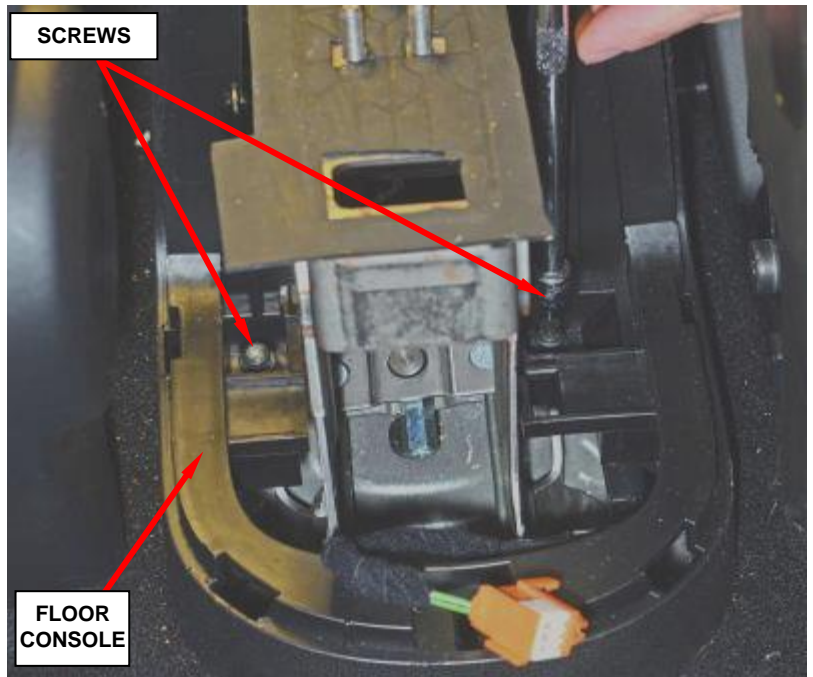

Figure 7 - Floor Console
- r. Remove and save the two screws securing the rear of the floor console (Figure 7).